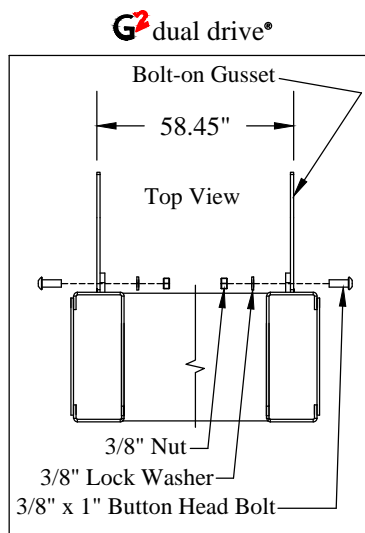

Figure 3: Top view of liftgate bolt-on gussets.
1. **Install** the eight (8) 3/8" x 1" button head bolts, lock washers, and nuts in the position shown for your configuration (Figure 3).